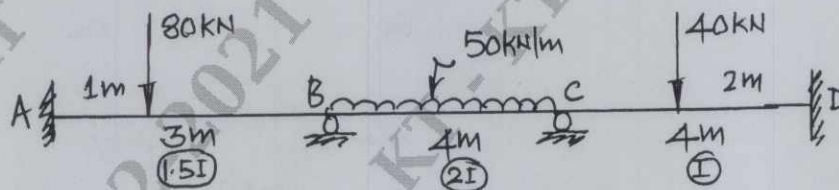

Fig.Q6
- 6 Determine the support moments for the continuous beam shown in Fig.Q6 by Kani's method. The relative I values are indicated along the member in each span. E is constant. Draw BMD and elastic curve.